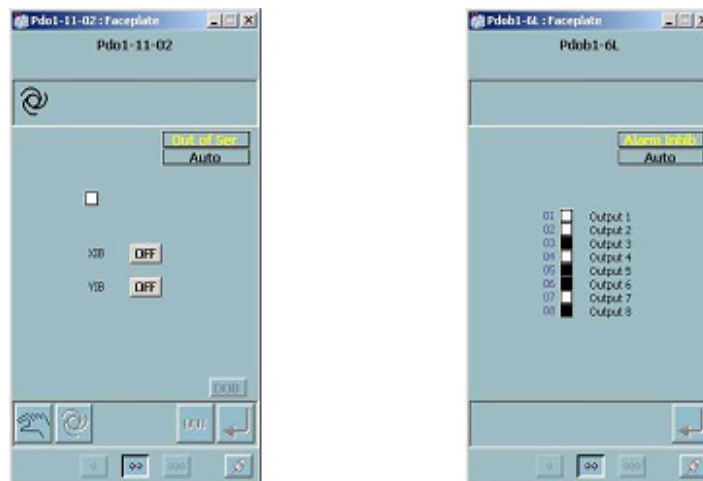

Figure 187. DO and DOB Module
**Discrete Output (DO / DOB).** Discrete output and discrete output block faceplates are representations of 800xA for DCI discrete (or digital) output tags. A DO module reports the current discrete value, input states for driving the output, alarm status, and quality that are presented in these faceplates and the DOB module reports the current discrete value for 8 DO modules. Figure 187 shows the layout of the DO and DOB normal sized faceplates and their attributes.